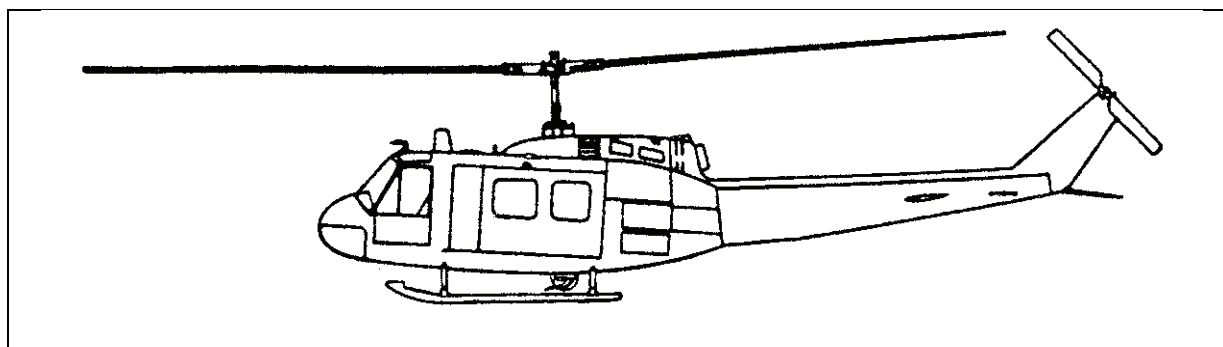

Figure 2-2. UH-1 Iroquois (Huey)
- **UH-1.** The UH-1H/P is a single engine, single main rotor helicopter (Figure 2-2) manufactured by Bell Helicopter Textron. The UH-1N is a twin engine version. The UH-1 is a general-purpose aircraft that has a limited cargo-carrying capability. It is used for such missions as aerial delivery of troops, cargo, and injured personnel.